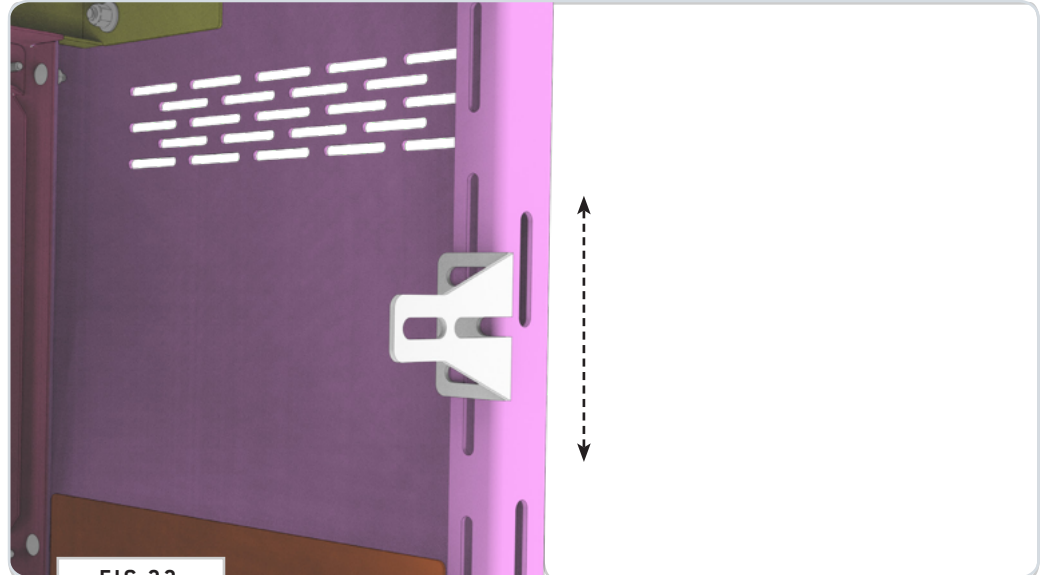
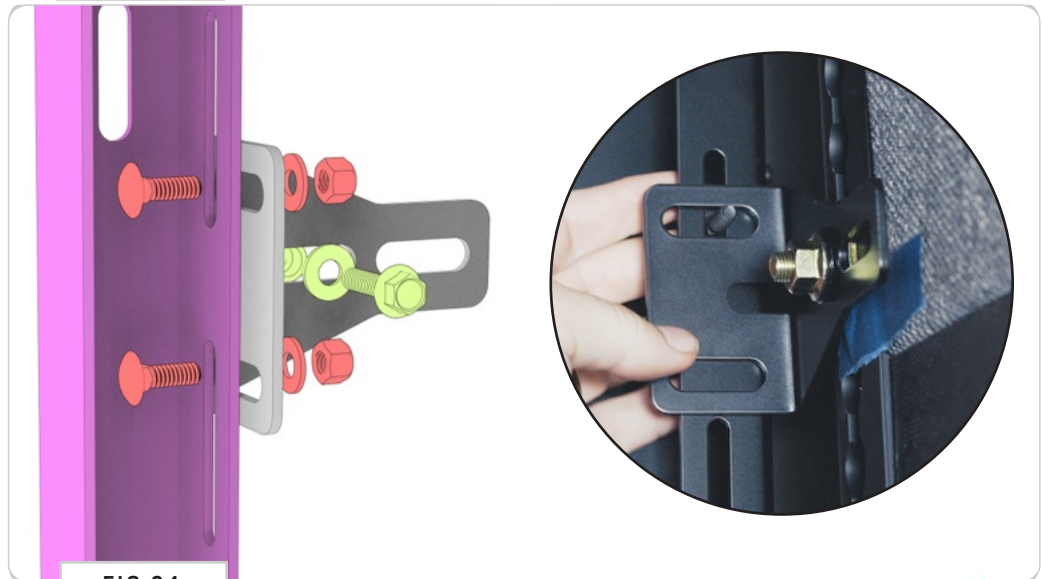

FIG 33
FIG 34
6.1 Attach Cabinets to Van Walls: Dry fit the **Mounting Brackets** to the available slots along the **Left and Right Cabinet Ends** for both the **Hinge and Table Side Cabinets** and mark your locations for drilling (**FIG 33**). Drill out your holes with a 25/64" Drill Bit, set your **Rivet Nuts** and secure to the **Cabinet** using **(2) 1/4-20 x 0.75 Square Neck Carriage Bolts, Flat Washers and Nylon Locknuts**. Secure to set **Rivet Nuts** using **1/4-20 x 1 Flanged Hex Head Screws** (**FIG 34**).